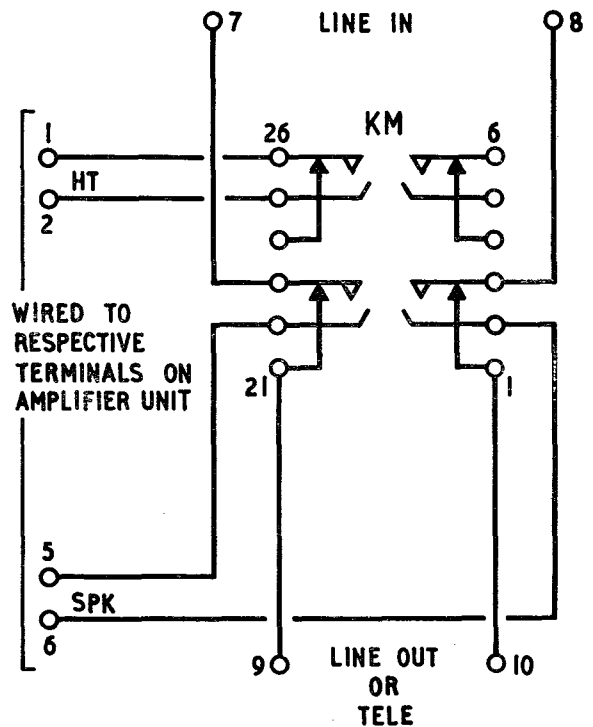

Fig. 3. Monitor wiring
- (1) Supply and wire-up power point adjacent to telephone point to be monitored, and set up the amplifier where convenient.
- (2) Remove the plug from position IC to position MN.
- (3) Disconnect the strap across the terminals 7 and 8 of the amplifier.
- (4) Only if an existing telephone instrument is still to be used as stand-by, provide and fix a G.P.O. key No. 253 adjacent to the amplifier and wire-up in accordance with fig. 3 by disconnecting the existing telephone and reconnecting it and the telephone line as shown.
- (5) If no stand-by telephone is to be used, the telephone line is connected direct to terminals X5 and 6X on the amplifier unit, while terminals 1 and 2 on the amplifier are strapped together. No key is needed.